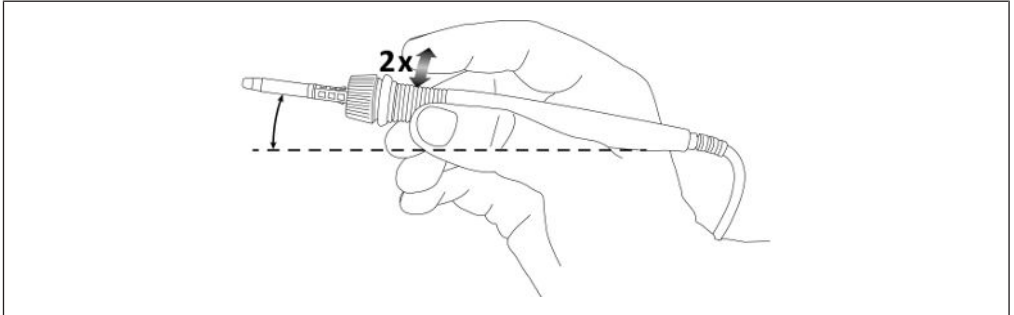

Fig. 18: Double tap the soldering iron
- a) Double tap the soldering iron to turn off the heating element. While tapping, tilt the soldering iron slightly upwards (see Fig. 18).